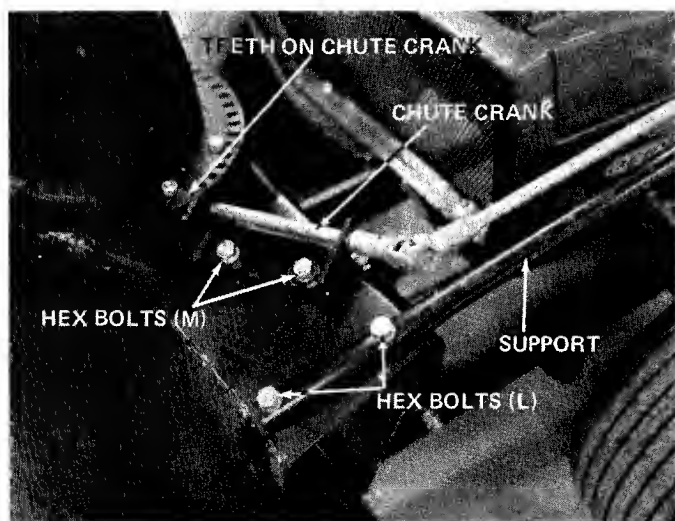

FIGURE 23
27. Attach the pre-assembled chute crank and support (AB) to the snow thrower housing. Secure the support with two hex bolts (L), lock washers (I) and hex nuts (Q). Secure the chute crank with two hex bolts (M), lock washers (I) and hex nuts (Q). See figure 23. Be sure teeth on chute crank link up with holes in chute flange before tightening bolts.